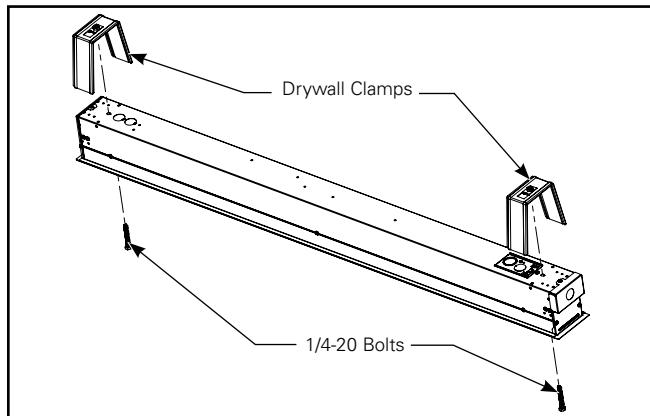

Figure 6.
- Once the tray is removed, the drywall clamps can be installed. Remove knockouts on either end of the fixture, and install the 1/4-20 bolt through the holes and into the clamps from the drywall clamp kit. See Figure 6.